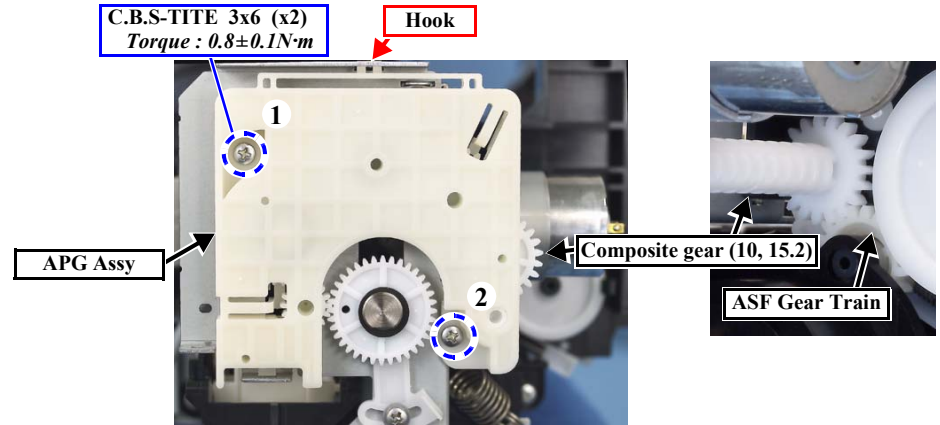

Figure 4-66. Removing the APG Assy
2. At the right side of the printer, remove the screws (x2) securing the APG Assy. (Fig. 4-66)